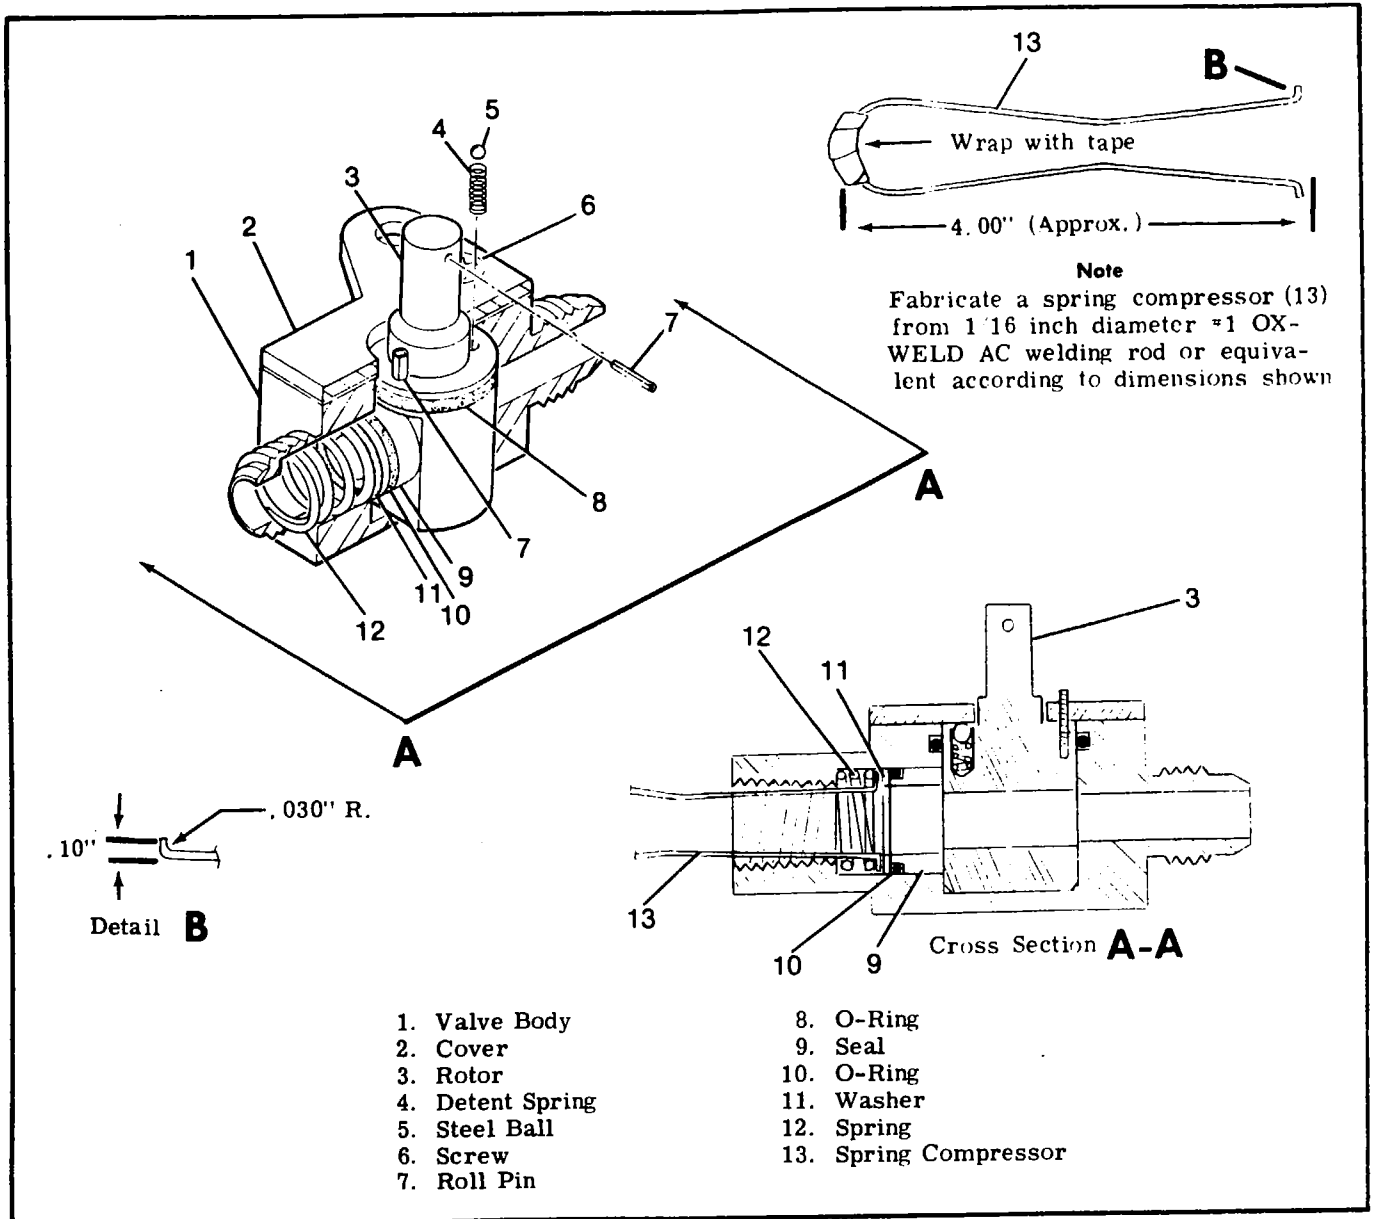

Figure 12-6. Fuel Shutoff Valve
12-22. DESCRIPTION. The fuel shutoff valve is a two position ON-OFF valve mounted directly on the reservoir tank using an adapter. The valve control knob is located on the left lower instrument panel. Valve repair consists of replacement of seals, springs, balls and other detail parts. Figure 12-6 illustrates the proper relationship of parts and may be used as a guide during disassembly and reassembly.
12-24. DISASSEMBLY. (See figure 12-6.)
12-26. REASSEMBLY. (See figure 12-6.)
- Insert new O-ring (8) into recess in valve body (1).
- Insert spring (12) into body (1).
- With spring compressor in place as shown in Section A-A on figure 12-6, compress spring (12) and install washer (11), new O-ring (10) and seal (6) into inlet port.
e. Holding spring compressed, carefully insert rotor (3) into valve body (1). Release spring compressor and check for proper seating of seal to rotor.
f. Lubricate detent spring (4) and ball (5) with lubricant conforming to Military Specification VV-P-236 (USP Petrolatum or equivalent), inserting spring into hole in rotor.
g. Place ball (5) on spring and turn rotor as required to index one of the detent holes in cover (2).
h. Attach cover (2) and test rotation of rotor shaft for ease of operation and positive detent engagement.